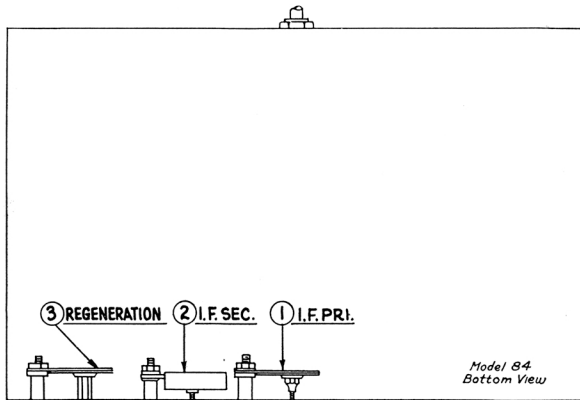

Fig. 21
The I.F. primary and I.F. secondary condensers should be adjusted first. Remove grid clip from 77 detector-oscillator and connect antenna lead from signal generator to cap of tube. Connect ground lead from signal generator to ground post of set. Set the signal generator at 460 K.C. (the I.F. of Model 84) and the dial pointer at 60. Adjust I.F. condensers ① and ② so that maximum signal is obtained. These condensers are at rear of chassis, accessible from rear. See Fig. 21.